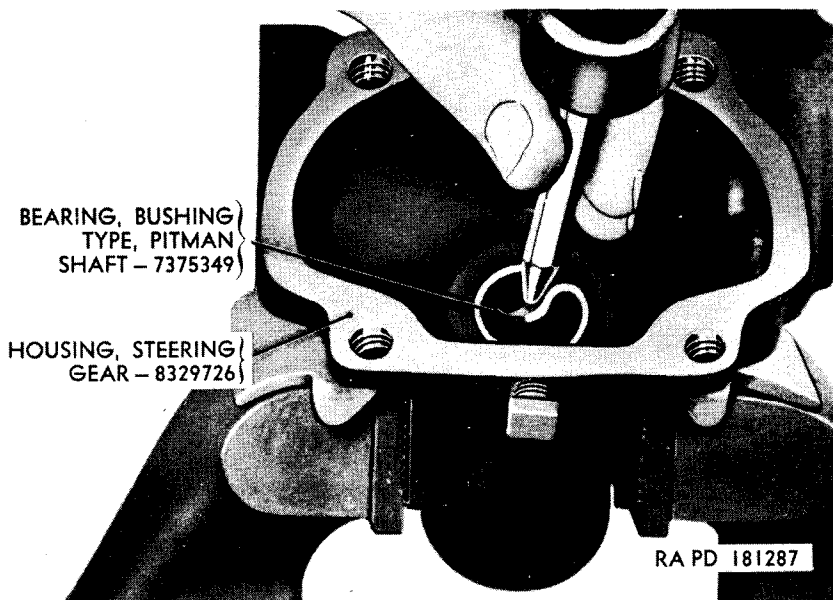

Figure 151. Removing pitman shaft bearings.
pitman shaft bearing joints as shown in figure 151 until ends of bearings overlap. Tap pitman shaft bearings out of steering gear housing. Install a new pitman shaft oil seal, with long lip toward interior of housing. Press (outer) pitman shaft bushing type bearing (E) into steering gear housing until it is flush with pitman shaft oil seal. Press (inner) pitman shaft bushing type bearing (F) into steering gear housing until the edge nearer the interior of housing is flush with edge of countersunk surface of steering gear housing.
- (2) *Upper cover seal.* If necessary, drive seal from housing upper cover (M) with a suitable drift. Install a new seal by driving it into proper position.